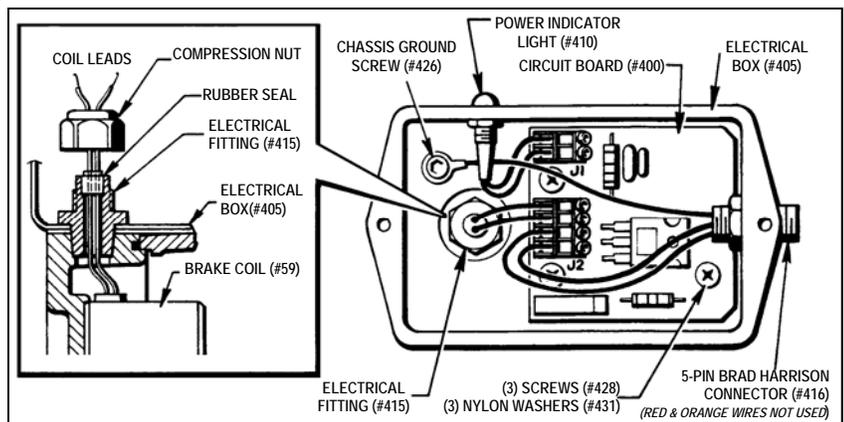

Figure 7.5 - Conduit Box with Cover Removed for Sizes MSB8, MSB9 and MSB10
(See Figure 7.5)
6. Take the cover off of the Conduit Box (#405) and disconnect the coil leads from J1 terminal strip located on the Circuit Board (#400). Also remove the compression nut from the Electrical Fitting (#415) and pry the rubber seal out of the fitting and off of the coil leads. (See Figures 7.5 or 7.6)
9. Remove the (2) Hex Nuts (#315) and (2) Lock washers (#129) from the (2) Manual Release Shafts (#189).
6. Attach the (2) Flat Washers (#274) and (2) Flange Nuts (#315) to the (2) Manual Release Shafts (#189). **Use Blue Loctite #242 and torque to 25 Lb. Ft.**
7. Place the rubber seal on the coil leads and pull the wires through, taking up all the slack in the wires. Seat the rubber seal into the threaded part of the Electrical Fitting (#415). Tighten down the compression nut. (See Figure 7.5 or 7.6)
8. Attach the coil leads to Terminal Strip J1 on the Circuit Board (#400) and replace the Conduit Box cover. (See Figure 7.5 or 7.6).
10. Attach the End Housing Assembly with (4) Hex Nuts (#261) and (4) Lock washers (#127). **Torque to 60 Lb. Ft.**